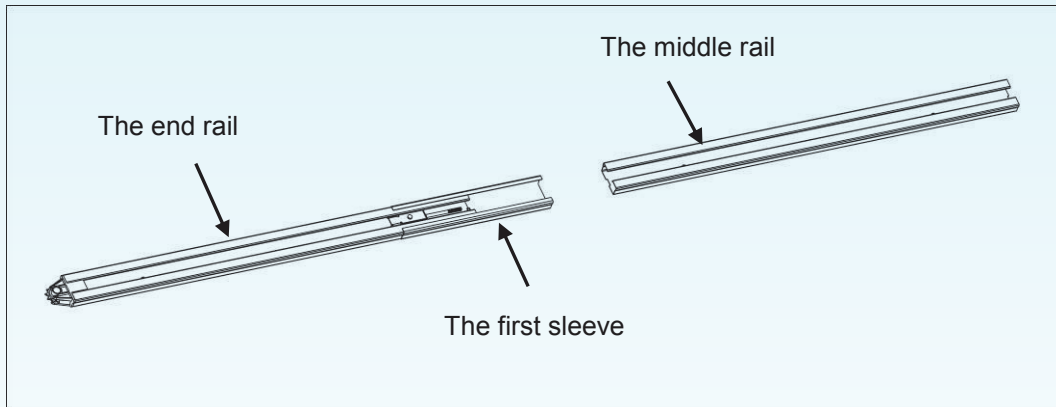

Fig. 10
1. As Fig.10, slide the end rail into the 1st sleeve, slide the middle rail into the 1st sleeve;